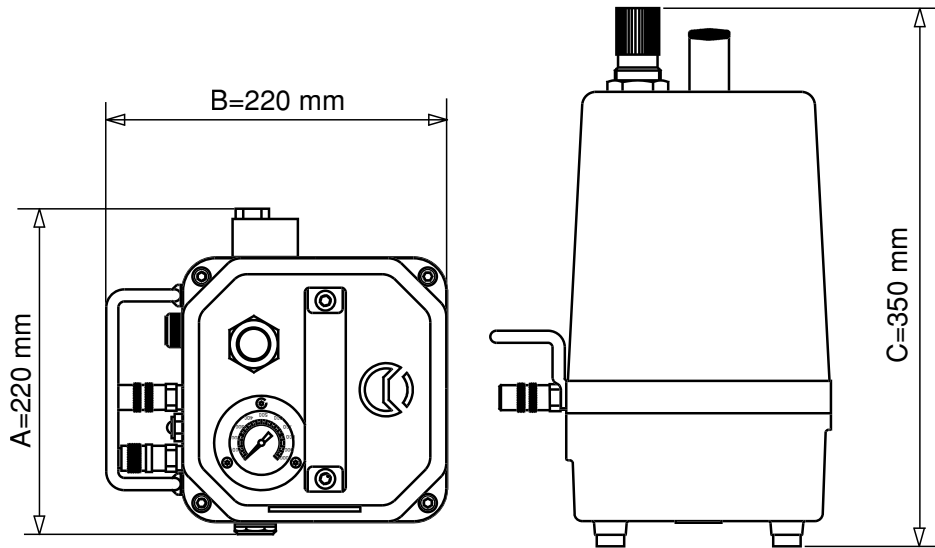

FIG.1 DIMENSIONS
1. GENERAL CHARACTERISTICS (Ref. to Fig. 1)
- Dimensions: width (A) 220 mm (8.7 in.)